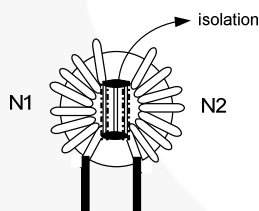
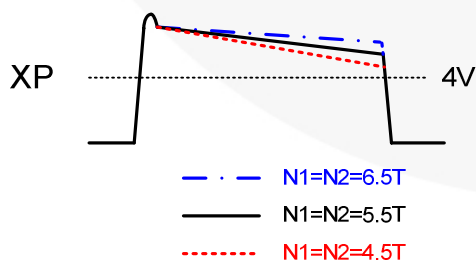

Figure 7. Pulse Transformer Structure
Figure 8. Slope Difference Between Different Turn Number On XP Signal
2. Pulse Transformer (PT)
The differential SR control XP-XN is delivered from FAN6210 to FAN6206 through a pulse transformer (PT), as shown in Figure 7. For the proper signal transfer, the core should have high initial permeability (μ_i). To separate primary-side and secondary-side windings, isolation is also necessary. It is typical to have the same number of turns for the primary and secondary to maximize the coupling. As the inductance of the winding decreases, the magnetizing increases, causing the voltage drop in the primary winding, as shown in Figure 8. The HIGH level of XP or XN signal should be higher than 4V to ensure proper SR gate driving. Meanwhile, too many turns may increase the inter-winding capacitance and, therefore, the inductance value should be determined properly. Typically, the inductance value is recommended as 100 μ H~300 μ H.